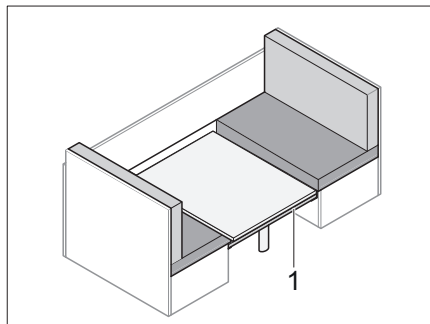

Fig. 59 Table lowered and additional strip inserted
- Insert the additional rail (Fig. 59,1) between the benches.